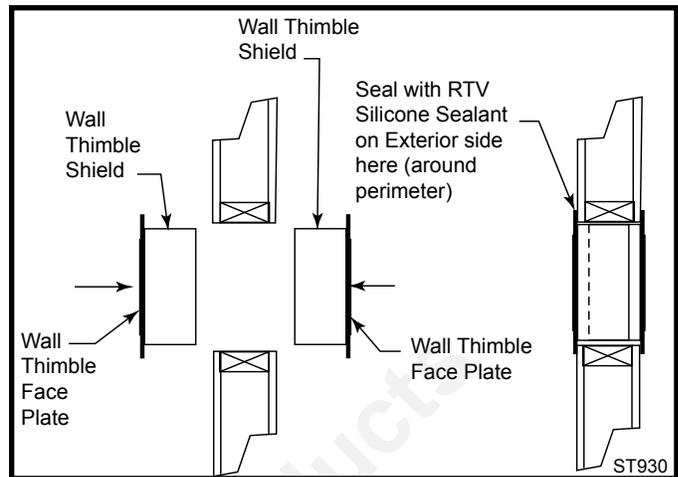

Fig. 41 Wall thimble.
5. If required, install the outside half of the wall thimble (WT) through the opening and screw or nail in place. (Fig. 41) Seal around the perimeter of the thimble face plate on the exterior wall using an RTV silicone sealant to provide protection from possible rain infiltration. (Fig. 41)